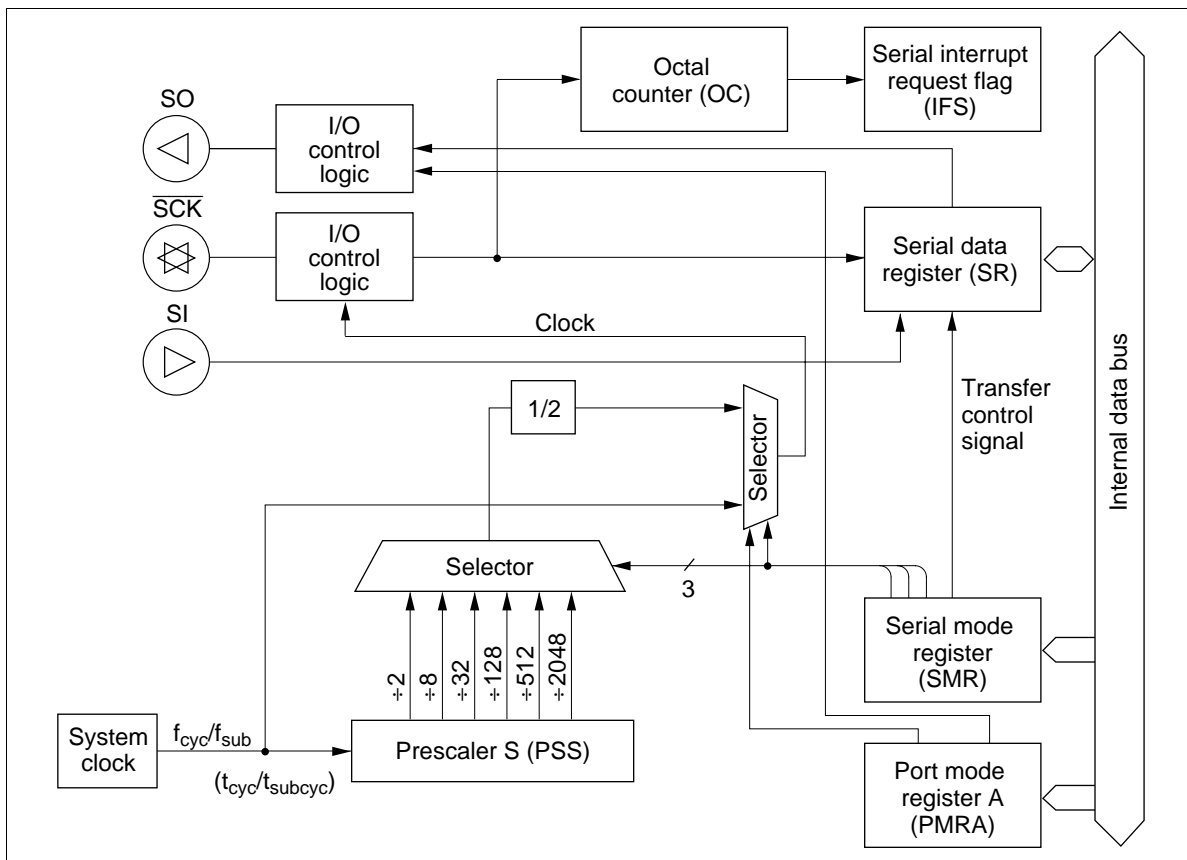

Figure 30 Serial Interface Block Diagram
The serial interface consists of a serial data register (SR), serial mode register (SMR), port mode register A (PMRA), octal counter, and multiplexers (see figure 30). The $R0_0/\overline{SCK}$ pin and the transmit clock are controlled by writing to the SMR. The transmit clock shifts the contents of the SR, which can be read and written to by software.